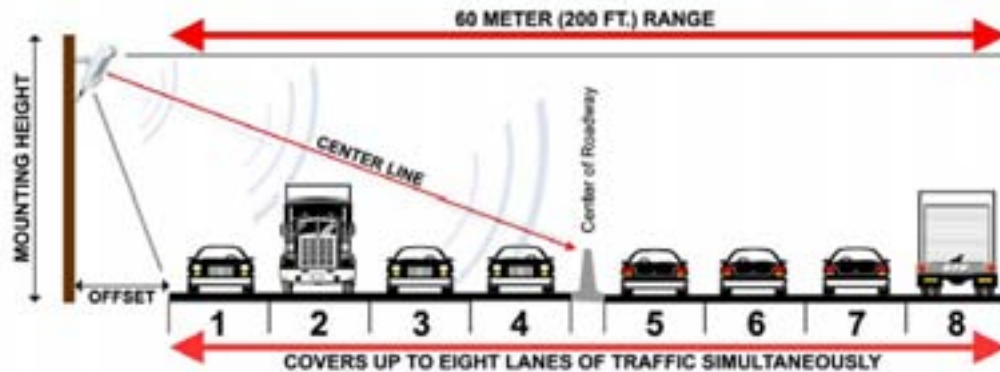

Figure 1 – Detection range of a properly mounted SmartSensor
1. Measure the offset from the first detection lane to the pole as demonstrated in Figure 1 above.
1. Aim the front of the sensor at the center of the detection area as shown in Figure 3. You may also refer to Figure 1 as an illustration of where to aim the sensor.